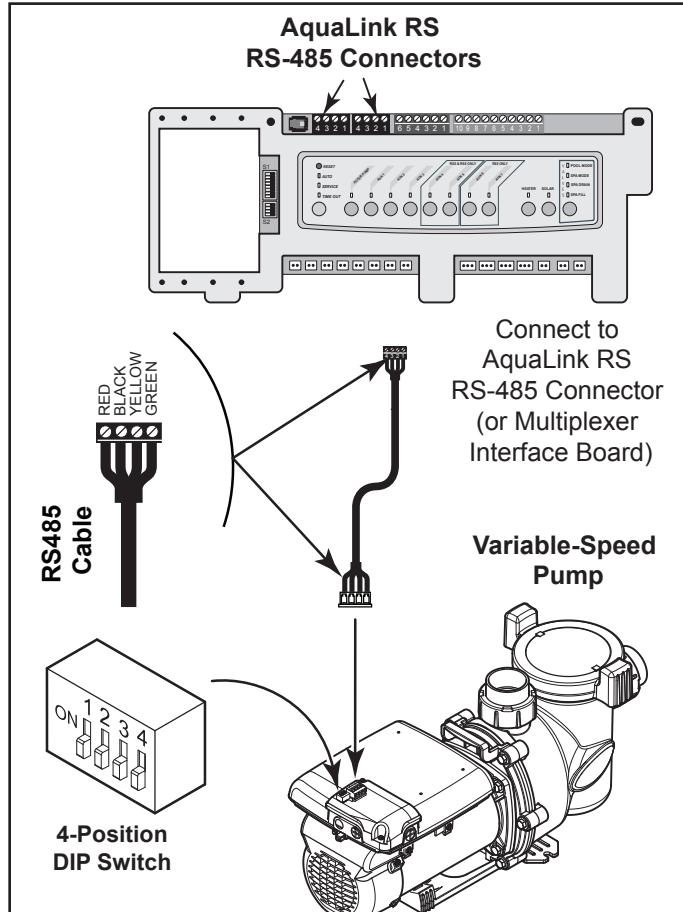

Figure 10. Wiring AquaLink RS Controller or AquaLink PDA to VS-FHP Pump
2. Slide dip switches 1 and 2 down, so they are in the OFF position. See Figure 10.
4. Connect the other end of the cable to an RS-485 connector on the AquaLink RS (or multiplexer interface board), matching wire colors with connector positions as follows: 1-red, 2-black, 3-yellow, and 4-green. See Figure 10.